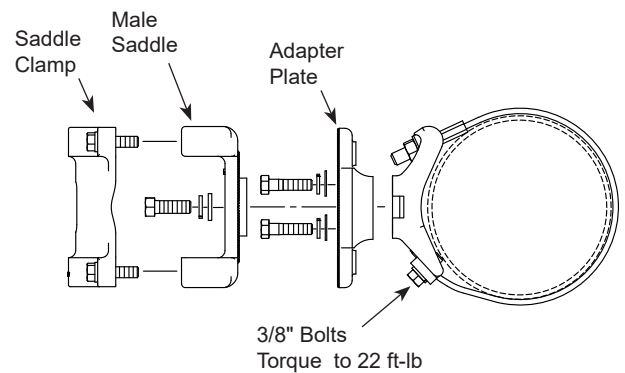

Figure 1
2. Loosen the (6) 3/8" bolts on the cable plates.
3. Adjust the nuts flush to the top of the Cable Screw as shown. (Figure 1)
4. Feed the wiring through the center of the clamp and place on the mast arm as desired. (Figure 1)